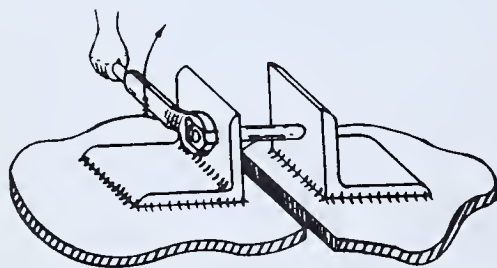
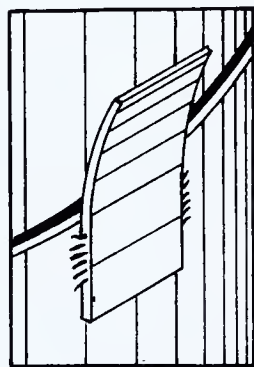
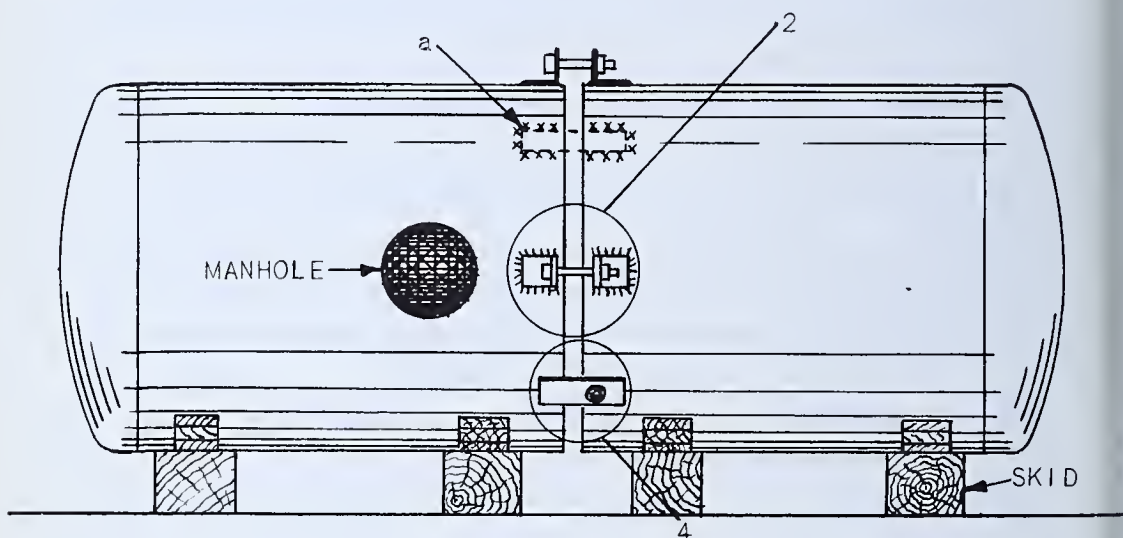

FIG. 372 — *Detail 2 in Fig. 375 and Fig. 369*
FIG. 376 — *Locating Strap. See Fig. 369 at *d**
FIG. 377 — *Cylindrical Shell in Preparation for a Girth-Seam Weld*
In order to draw the ends together evenly, the boiler-maker welds a pair of angle clips (See Fig. 372) to the rolled plate as shown in Fig. 368, passes a 1" bolt through the holes in the clips, and draws it up until the joint is tight.
Figure 369 shows a cylinder and a dished head in course of being fitted. The dished head is supported level by four wooden chocks, three of which appear at *a*, *b*, and *c*. Four straps are tack welded to the head as shown at *d*. See detail of straps in Fig. 376. These straps are for the purpose of keeping in line the outside diameters of the cylinder and the dished head. The straps are tack welded to the head on the correct center lines (lead markings) which are indicated by white-paint markings on the cylinder and head. The markings have been previously located according to the blueprint.
Girth seams are welded when the cylindrical shell is lying in a horizontal position as shown in Fig. 377. The work is blocked up on the floor until the longitudinal alignment is correct. Angle clips are tack welded on the circumference of the shell as shown in Fig. 377, detail 2. See Fig. 372, Job Sheet No. 13. Flat clips are tack welded on the circumference as shown in Fig. 377, detail 4. See Fig. 376, Job Sheet No. 13.
The alignment of the girth joint is made possible by pulling up on the bolts in the angle clips and drawing the two sections of the shell together as shown in Fig. 377. Tack welds are made at intervals in the manner explained in Job Sheet No. 13. All fittings on a job of this nature must be done on the outside of the shell. Skids are placed at intervals along the floor. The skids are long enough to permit the cylinder to roll a considerable distance either way. The radius blocks (or chocks) are placed securely after each movement of the cylinder on the skids.
1. Block the cylindrical shell sections in alignment (as shown in Fig. 377). Use radius blocks and skids.
3. Tack weld three or more sets of angle clips to the shell as shown in Fig. 377, detail 2.
Use straps shown in Fig. 377, detail 4, to make this adjustment.
On heavy tanks, the tack welds should be reinforced by welding straps across the seam as shown in Fig. 377 at *a*. This reinforcing job must be done only after the joint has been pulled up as in Step 4. Use as many welding straps as are necessary.
A cylindrical tank similar to the one shown in Fig. 377 is to be equipped with a number of steel trays like the one shown in Fig. 352, Job Sheet No. 11. The trays rest upon, and are welded to, angle-iron rings that have previously been welded at intervals on the inside of the cylindrical shell.